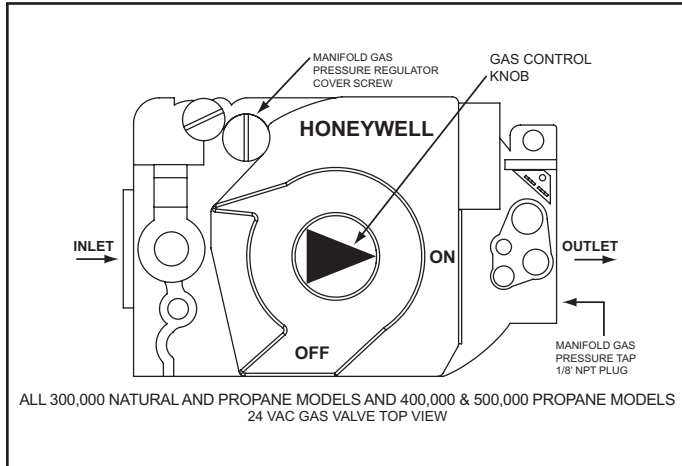
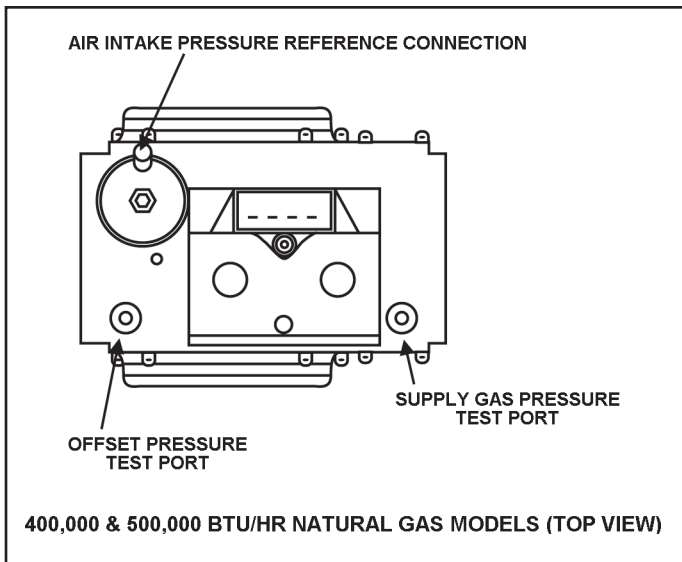

Figure 56
Figure 57
4. Push in the gas control knob slightly and turn to the "off" position, see Figure 56 on page 51.
5. Wait five (5) minutes for any residual gas to clear.
6. Connect one manometer (higher range) to an available test port on the supply gas line at the water heater. There is a 1/8" NPT Tee fitting and pipe nipple installed for the Low Gas Pressure switch on the inlet side of the 24 VAC Gas Valve with a 1/8" NPT plug for this purpose. For BTH-400 and 500 natural gas models, connect the manometer to the supply gas pressure test port, see Figure 57 on page 52.
7. Connect one manometer (lower range) to the manifold gas pressure tap at the outlet of the 24 VAC Gas Valve, see Figure 57 on page 52 for location.
1. Push in the gas control knob slightly and turn to the "on" position, see Figure 56 on page 51.
2. Remove the manifold gas pressure regulator cover screw, see Figure 56 on this page 51.
3. Push in the gas control knob slightly and turn to the “off” position, see Figure 56 on page 51 and Figure 57 on this page.